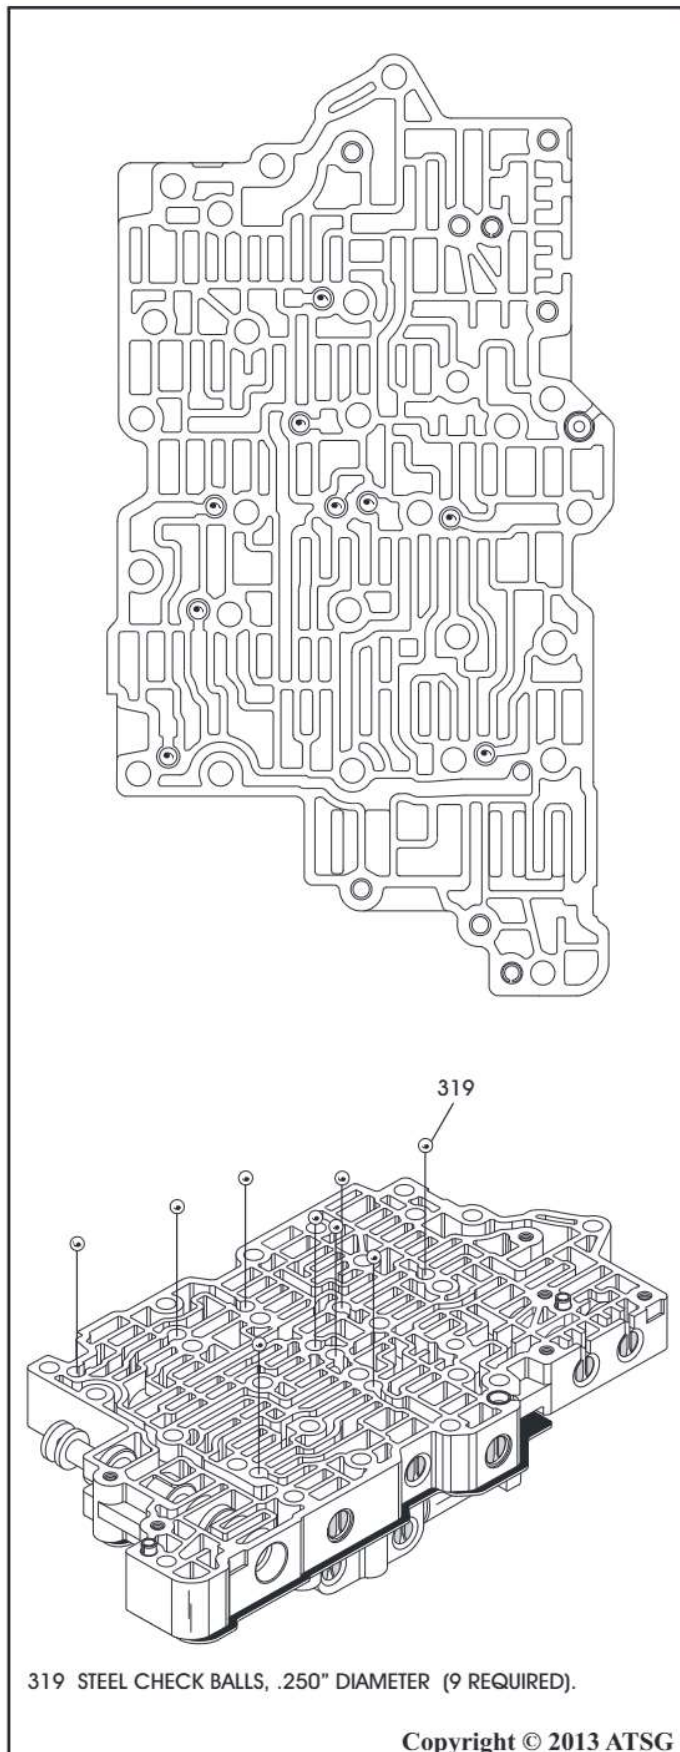

Figure 180
30. Place the nine check balls into the upper valve body in their proper locations, as shown in Figure 180.